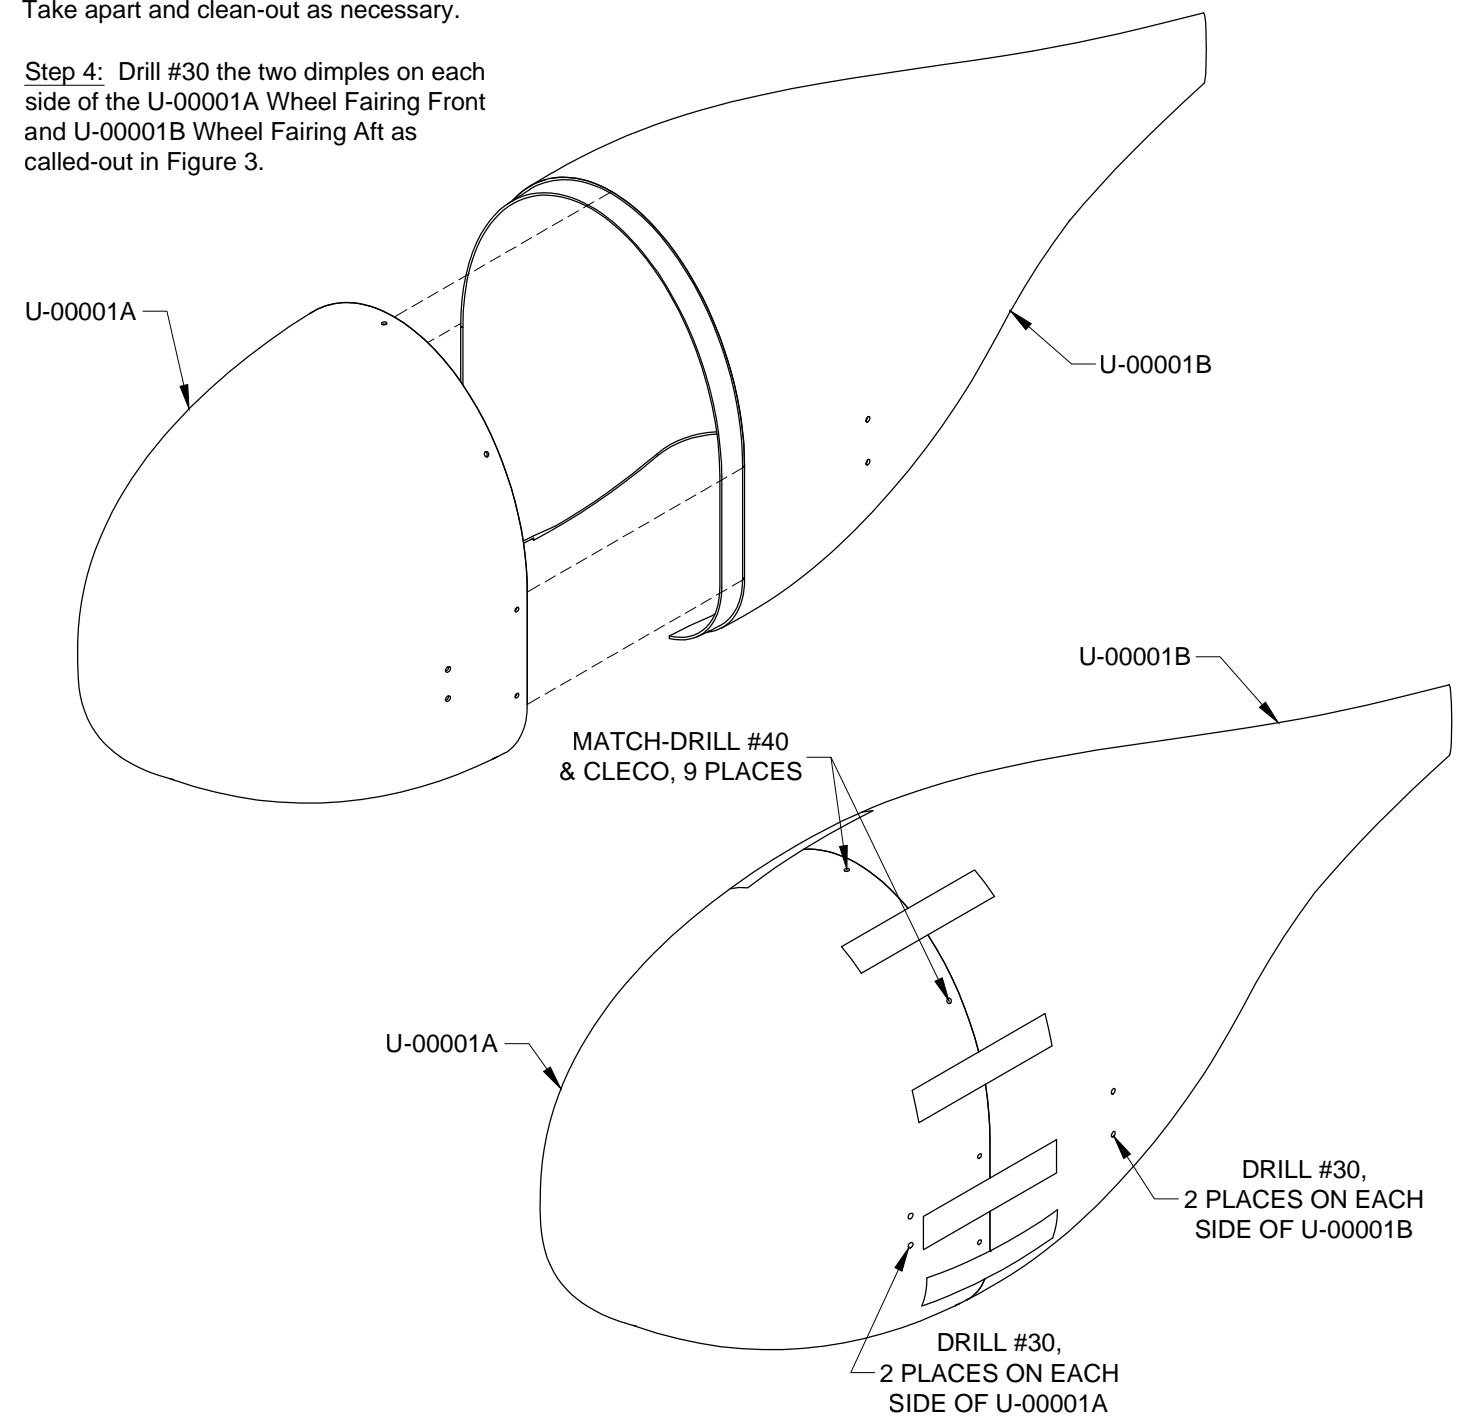

FIGURE 3: JOIN FAIRING HALVES & MATCH-DRILL
Step 4: Drill #30 the two dimples on each side of the U-00001A Wheel Fairing Front and U-00001B Wheel Fairing Aft as called-out in Figure 3.